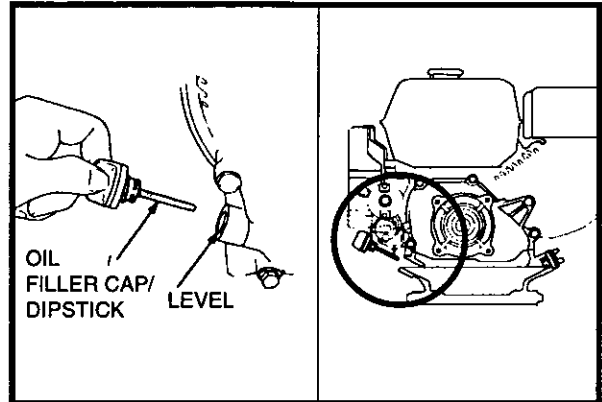

Figure 5-1 Engine Oil Level
3. Check the engine oil level. If the level is low, add fresh oil to upper level on the oil level gauge. Refer Figure 5-1.